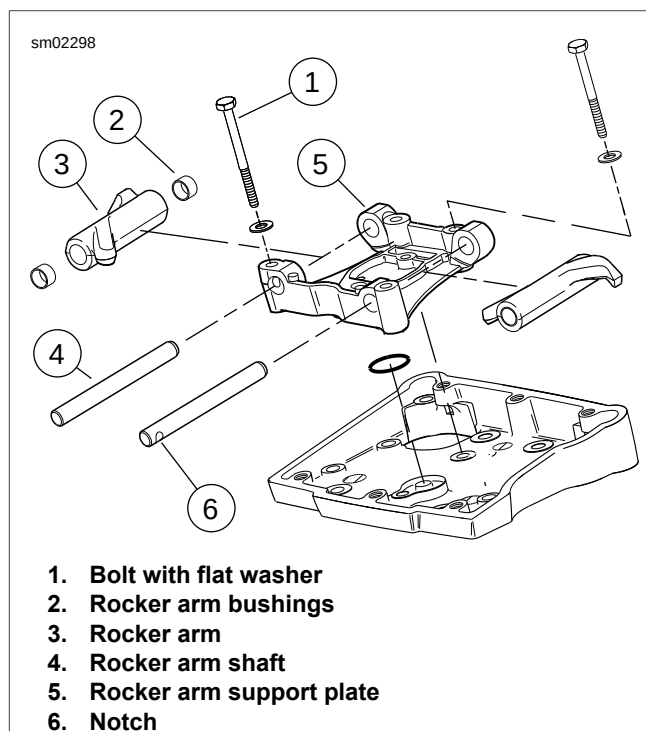

Figure 3-31. Rocker Arm Assembly
1. See Figure 3-31. Remove four bolts and flat washers (1) from the rocker arm support plate (5).
2. Remove the rocker arm shafts (4) so that the notched ends exit the rocker arm support plate (5) first. Use a hammer and brass drift if necessary. Mark the shafts so that they are installed in their original locations at time of assembly.
2. See Figure 3-31. Check rocker arms (3) for uneven wear or pitting where contact is made with the valve stem tips. Check for concave wear where rocker arms contact the pushrod ends. Replace rocker arm if excessive wear is found.
3. Verify that oil holes in rocker arms and rocker arm support plate (5) are clean and open.
4. Inspect rocker arm shafts (4) for scratches, burrs, scoring or excessive wear. Replace as necessary.